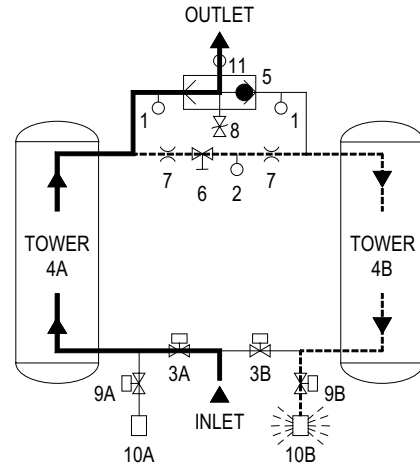

FIGURE 3-3a
(Refer to Fig. 3-3a.) Compressed air flows through inlet switching valve (3A) (normally open) to tower (4A) where the air is dried. After the air is dried it flows through shuttle valve (5) and then to the dryer outlet. A portion of the dry air, the purge stream, branches off from the main air stream prior to the outlet. The purge stream flow rate is controlled by the adjustable purge rate valve (6) and the two purge orifices (7).